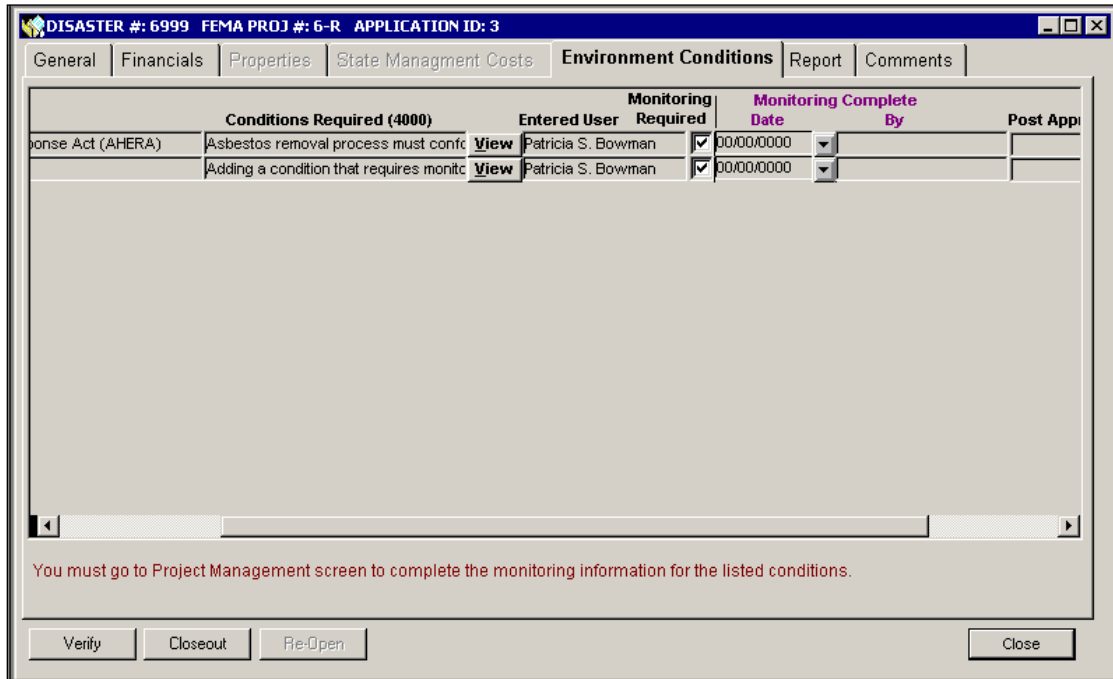

Figure 12-19: Mitigation > Projects > Closeout > Environment Conditions Tab
1. If the tab is active, click the **Environment Conditions** tab (Figure 12-19).